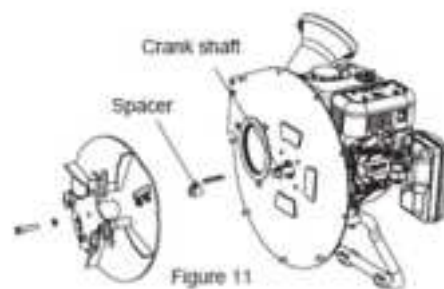

Figure 11
4. Remove the rotor by removing the hardware that secures it to the engine crank shaft. See Figure 11.